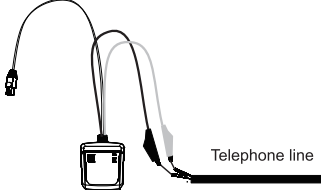

Figure 4 Indicating line conditions
8. Indicating line conditions/Checking polarity (see Figure 4)